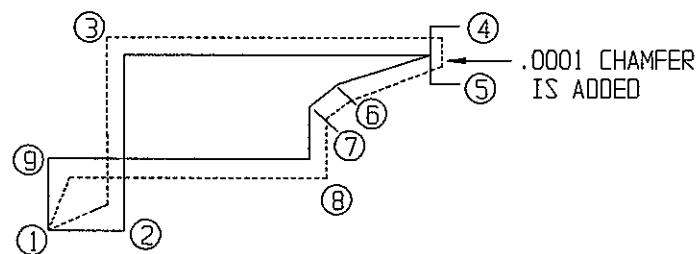

Figure 9
Figure 9 shows how a .0001" chamfer or round corner added at point (4) has saved an unnecessary departure.